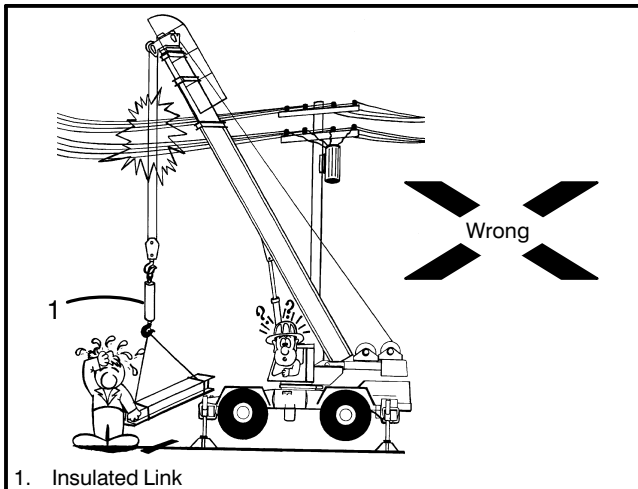

Figure 1-18
- g. The use of boom point guards, proximity devices, insulated hooks or swing limit stops do not assure safety. Even if codes or regulations require the use of such devices, you must follow rules listed here. If you do not follow them, the result could be serious injury or death. Figure 1-15 through Figure 1-18 portray some of the limitations of the devices.